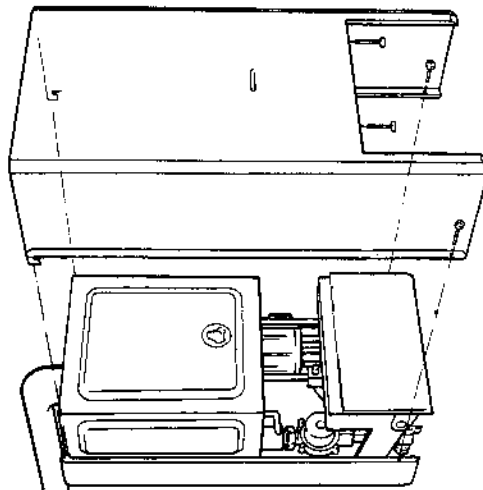

Fig. 26
6.15.3 Refixing the Front Cover (fig. 26)